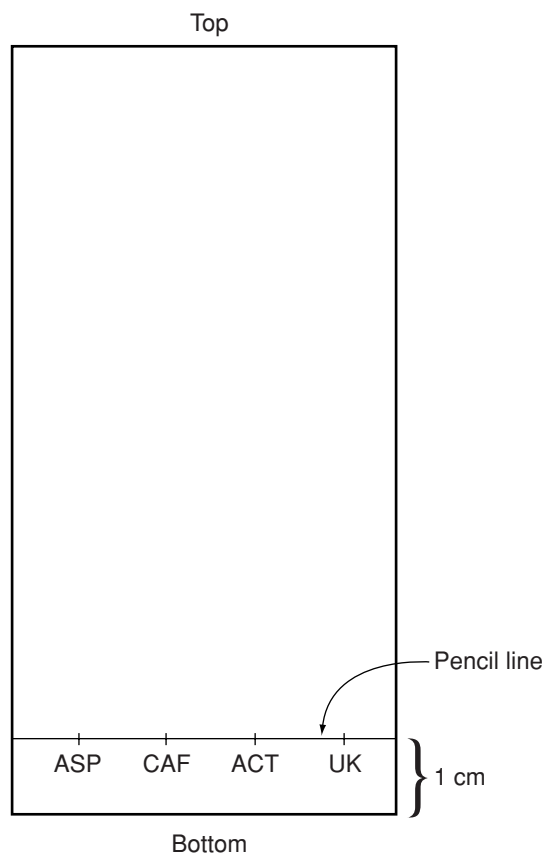

Figure 1. Initial TLC layout
2. Use a pencil and ruler to gently draw a faint line 1 cm from the bottom of the plate and make other light markings as shown in Figure 1. Do not dig into the white powder on the plate. *Note:* Do not use a pen!